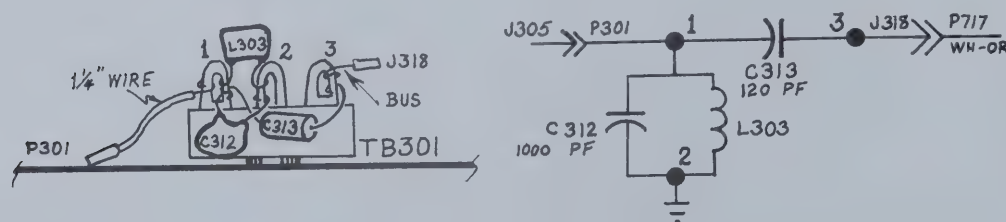

Figure 2 - Audio Filter Outline Diagram and Schematic Diagram
3. Mount P301, J318, C312, C313 and L303 on terminal board TB301, as shown in Figure 2.